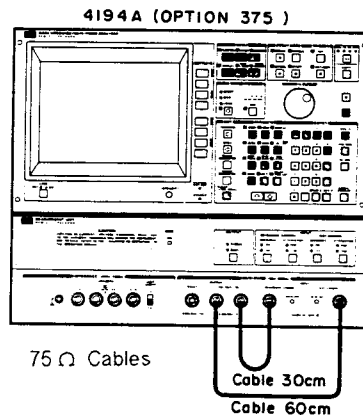

Figure 4-11. HP 11852A Insertion Loss Calibration Setup 1
2. Interconnect the OUTPUT and INPUT terminals using 75 $\Omega$  cables as shown in Figure 4-11.